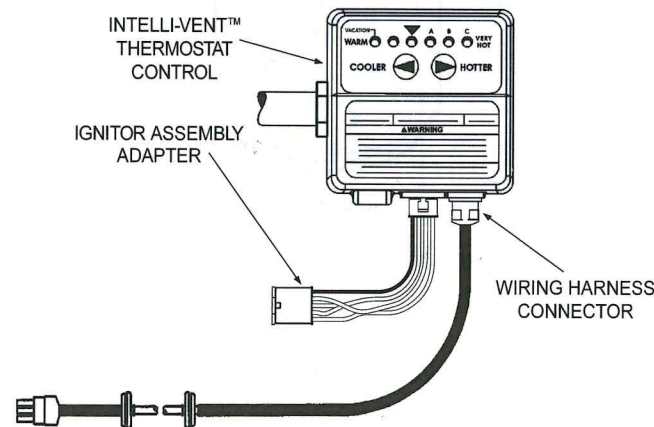

FIGURE 16.
- Locate the wiring harness and connector that comes out of the water heater's jacket and plug the connector into the Intelli-vent™ Thermostat Control, (184960 Series), see Figure 16.
- Locate the "Ignitor Assembly Adapter" from the replacement kit and plug the male end into the Intelli-vent™ Thermostat Control, (184960 Series). Note: The connector is "keyed" so it can only be inserted one way. Make sure the connector is properly aligned before attempting to insert. Do not force the connector or damage to the control will result, see Figure 16.